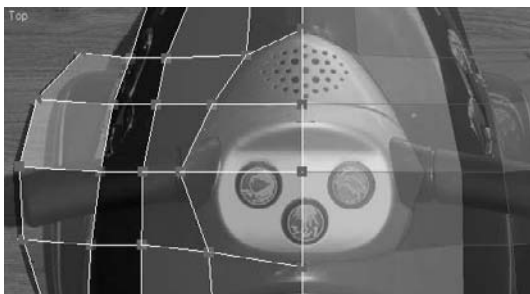

Figure 5.42
7. With the new vertices along this lengthwise cut line, in the Top viewport, move the vertices to fit the shape of the control panel as shown in the Top View image plane. See Figure 5.42.